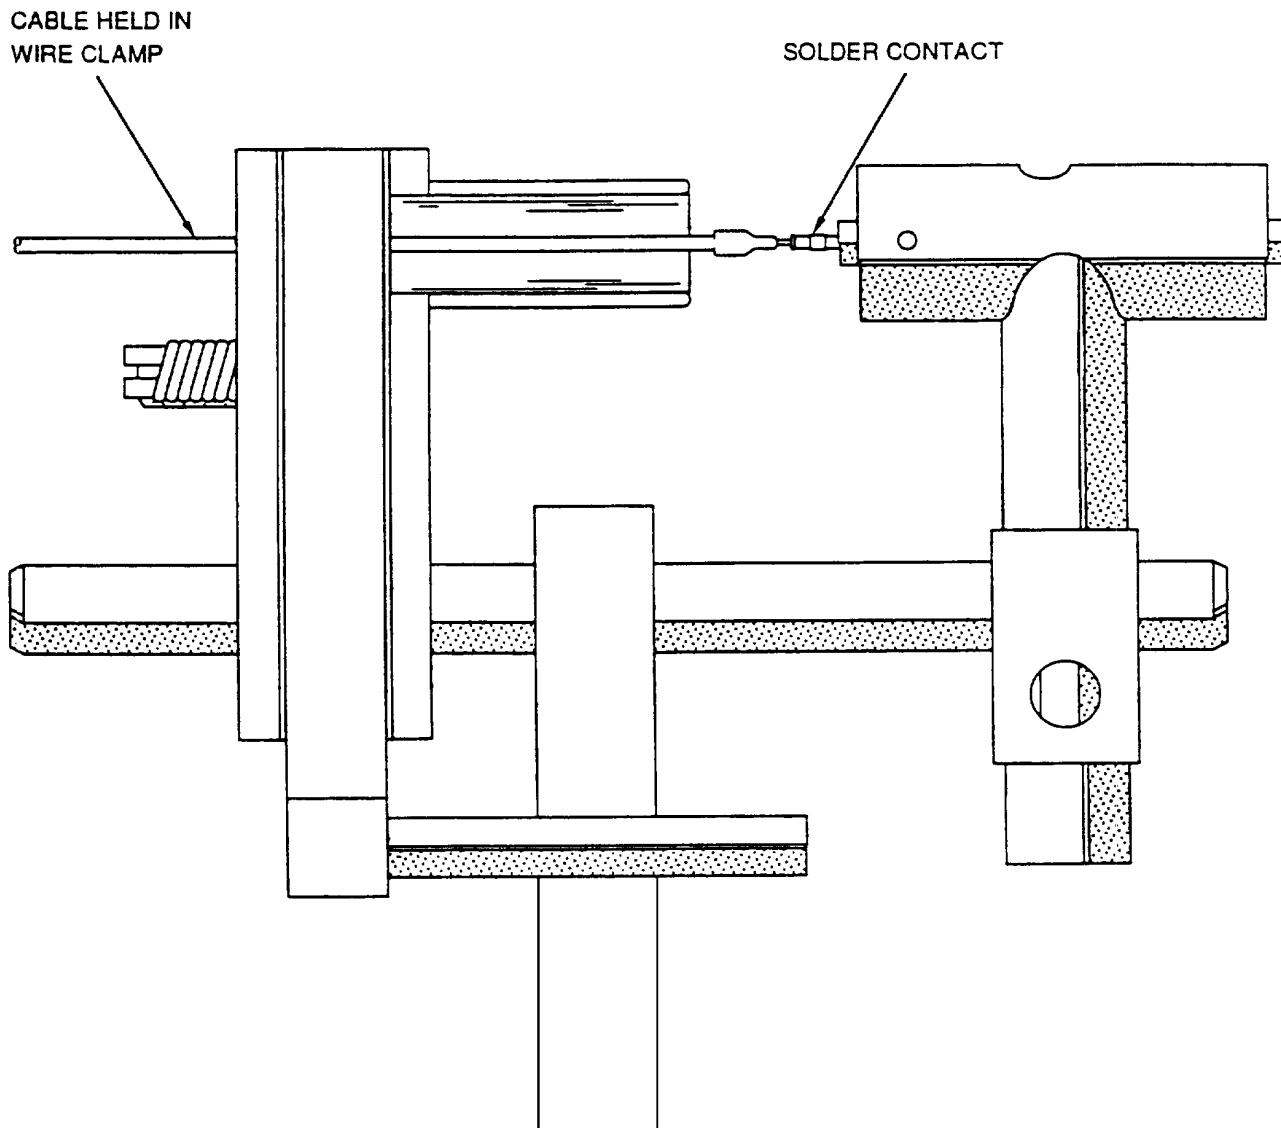

Figure 15. Solder Contact and Cable Prepared for Heating
- Insert contact and cable assembly into holding fixture and adapter (Figure 15). End of adapter marked P is for plug (pin) contacts and end marked R is for receptacle (socket) contacts.
- c. Insert contact and twisted pair assembly into holding fixture and adapter (Figure 15). End of adapter marked P is for plug (pin) contacts and end marked R is for receptacle (socket) contacts.